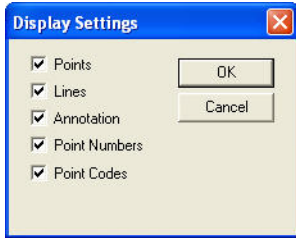

Figure 12-18. Display Settings Window
- To display points, lines, and arcs on the graphic preview, click the **Hot Button**  to open the *Display Settings* dialog box (Figure 12-18).